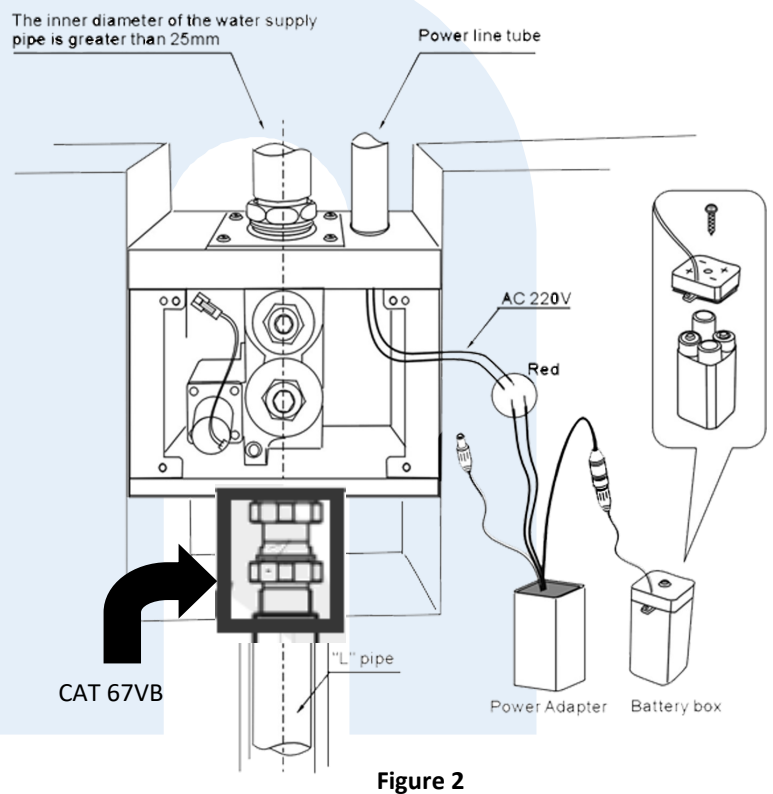

Figure 2
3. Remove the mortar mould sleeve and check for leaks. Insert the AC 240V power cord into the hole of the embedded box if using AC power. Tie the 2 red wires of the power adapter box with the 2 AC 240V power wires respectively, and wrap them with electrical tape. If using batteries, install 4 x AA alkaline batteries into the battery box (Figure 2).